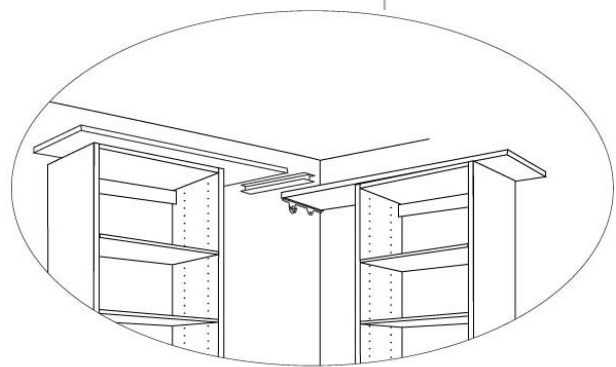

Fig. 8
3. After installing the full length top shelf, measure, mark and cut the shorter connecting top shelf material, subtracting the lengths of the depth of the full length top shelf and 1/8" to 1/4" for the thickness of the 3/4" Shelf Joiner. (See exploded view, Fig. 8.)
5. Screw in four (4) #8 x 1/2" screws through the four (4) mounting holes on the underside of the Shelf Joiner.
6. To connect 3/4" cammed top shelving material in a corner (see Fig. 8 on previous page), trim a 18" cammed shelf to fit the gap, subtracting the width (1/8" - 1/4") of the 3/4" Shelf Joiner.